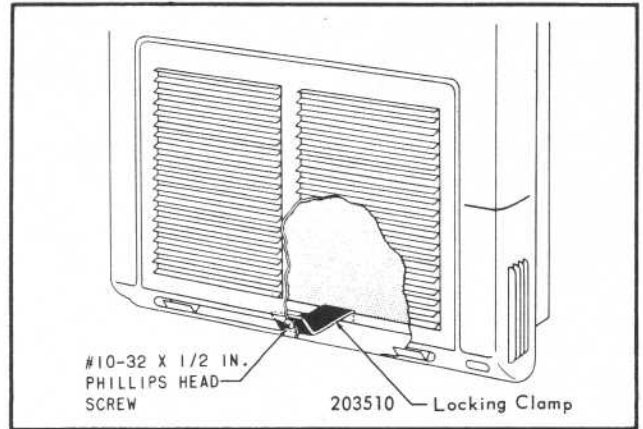

Figure 14 - Grille Locking Clamp
i. **GRILLE LOCKING CLAMP** - To prevent tampering with or damage to units installed in dormitories, hotels, or other public buildings, a grille locking clamp is available. This clamp illustrated in Figure 14, can be used with any standard SelectTemp unit. A Phillips head screw driver is required for removal of the grille equipped with the clamp.